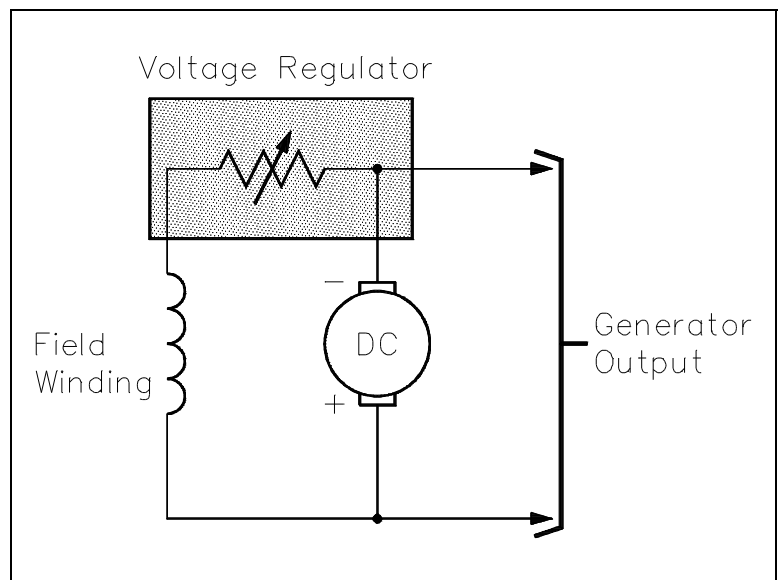

Figure 7 Varying Generator Terminal Voltage
DC generator output voltage is dependent on three factors (recall equation 5-1): (1) the number of conductor loops in series in the armature, (2) armature speed, and (3) magnetic field strength. In order to change the generator output, one of these three factors must be varied. The number of conductors in the armature cannot be changed in a normally operating generator, and it is usually impractical to change the speed at which the armature rotates. The strength of the magnetic field, however, can be changed quite easily by varying the current through the field winding. This is the most widely used method for regulating the output voltage of a DC generator (Figure 7).